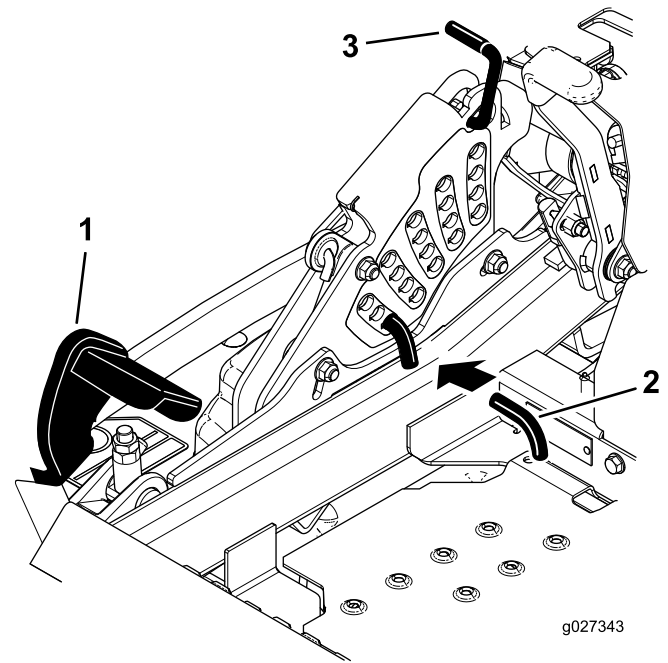

Figure 88
5. Push the deck-lift pedal all the way forward so that the deck latches at the 14 cm (5-1/2 inches) transport position (Figure 88).